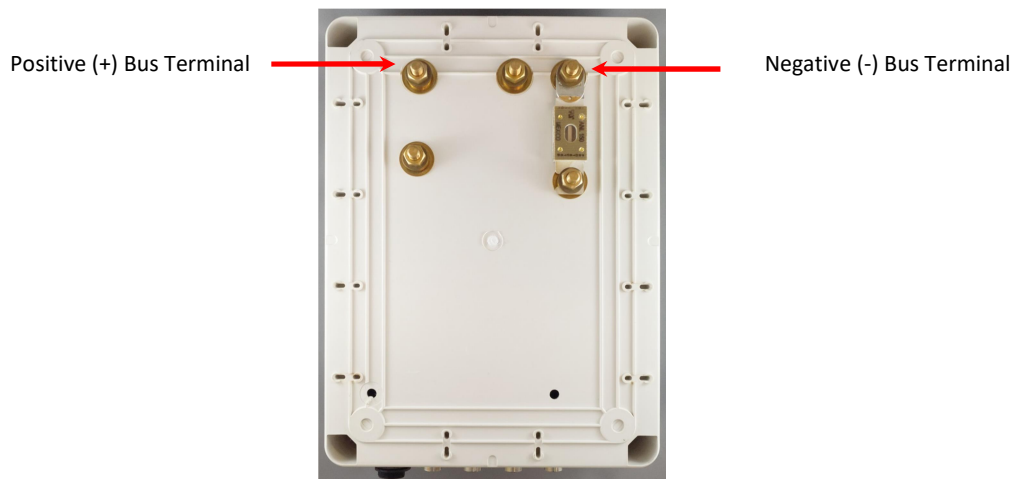
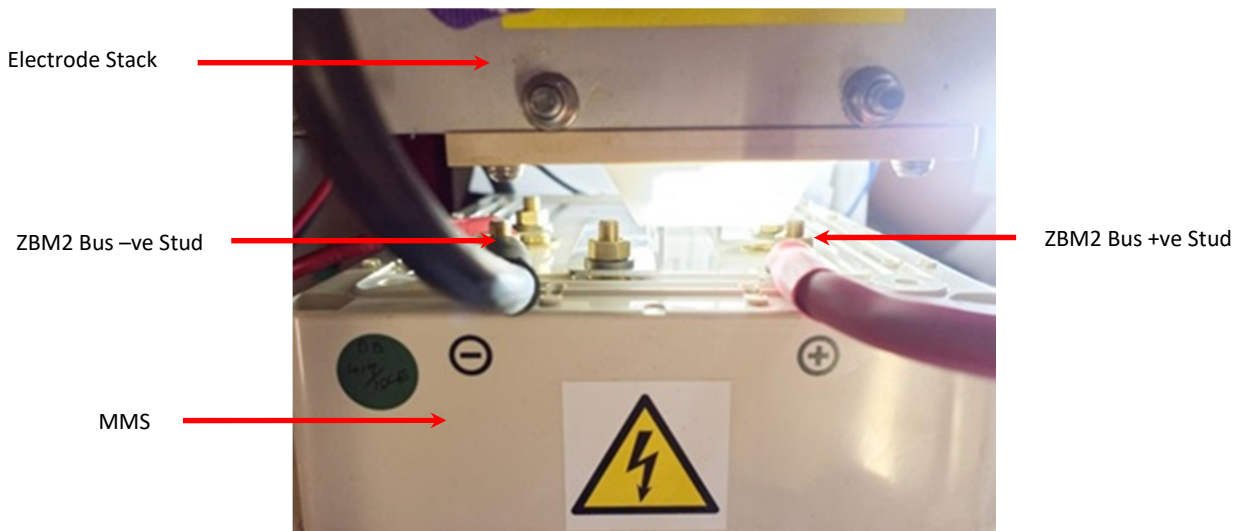

Figure 35: MMS Connections
Figure 36: Bus cable connections
Step 10 Connect positive and negative cables to the input bus terminals on the back of the MMS (see Figure 35 and Figure 36) then to an appropriately sized circuit breaker (maximum rating 125A). The 125A DC circuit breaker is not provided with the ZBM2, and the cabling must be appropriately sized. Both the positive and negative terminal cables are terminated with 8mm eyelets at the MMS.
This is done by first removing the terminal cover, then removing the washers and nuts from the two studs of positive and negative bus terminals, as shown in Figure 36. Apply conductive carbon grease to the positive and negative bus studs.